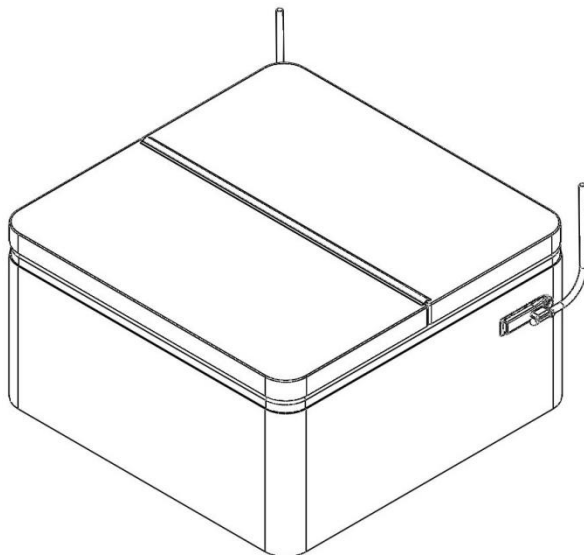

Figure 5
5. Repeat Step 4 for the other side of the spa. After installing the Pivot Arms (EX-D), tilt them into the upright position. See Fig 5.